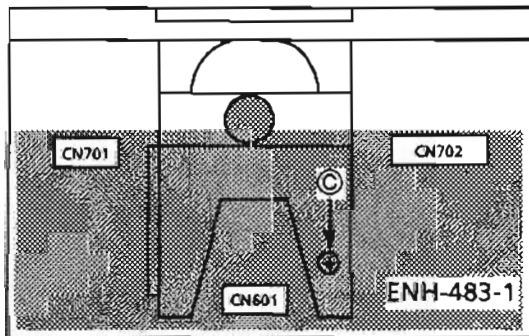

Fig. 3 UP SIDE
2. Remove the 2 screws ③. Disconnect the CN601. (Fig.3)
2. Disconnect the CN701 and CN702. (Fig.3)
3. Remove the 2 screws ⑧.
4. Release the hooks ⑨ holding the panel, and remove the front panel assembly.